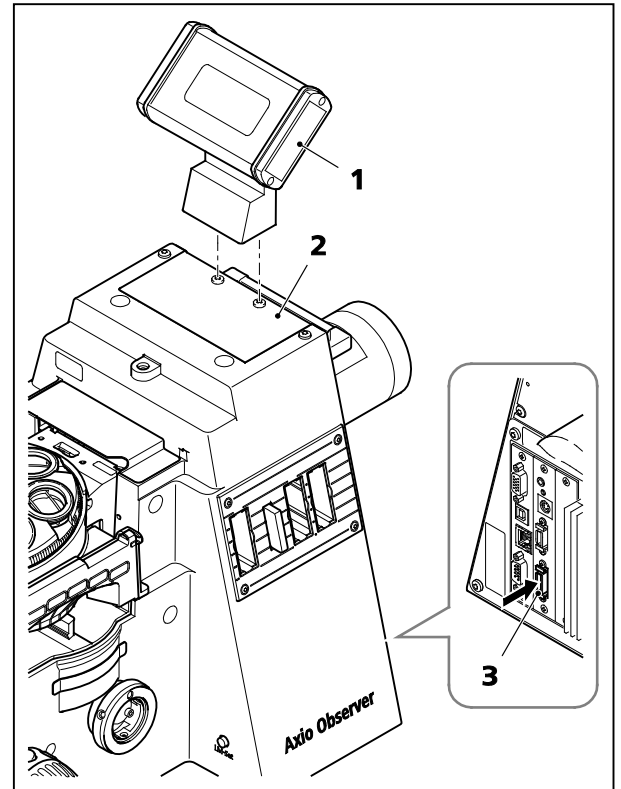

Fig. 18 Fitting the holder with LCD display
The holder with LCD display (Fig. 18/1) has a magnetic base. It can be placed on a microscope if this is not equipped with a transmitted light illuminator or beside it.
- Place the holder with the LCD display (Fig. 18/1) in position on the cover plate (Fig. 18/2) of the transmitted light illuminator contact surface so that the two recesses are positioned on top of the two screws.
- Insert the LCD display plug into the socket (Fig. 18/3) for the display (carrier for transmitted-light illumination) on the rear of the 5 materials stand.